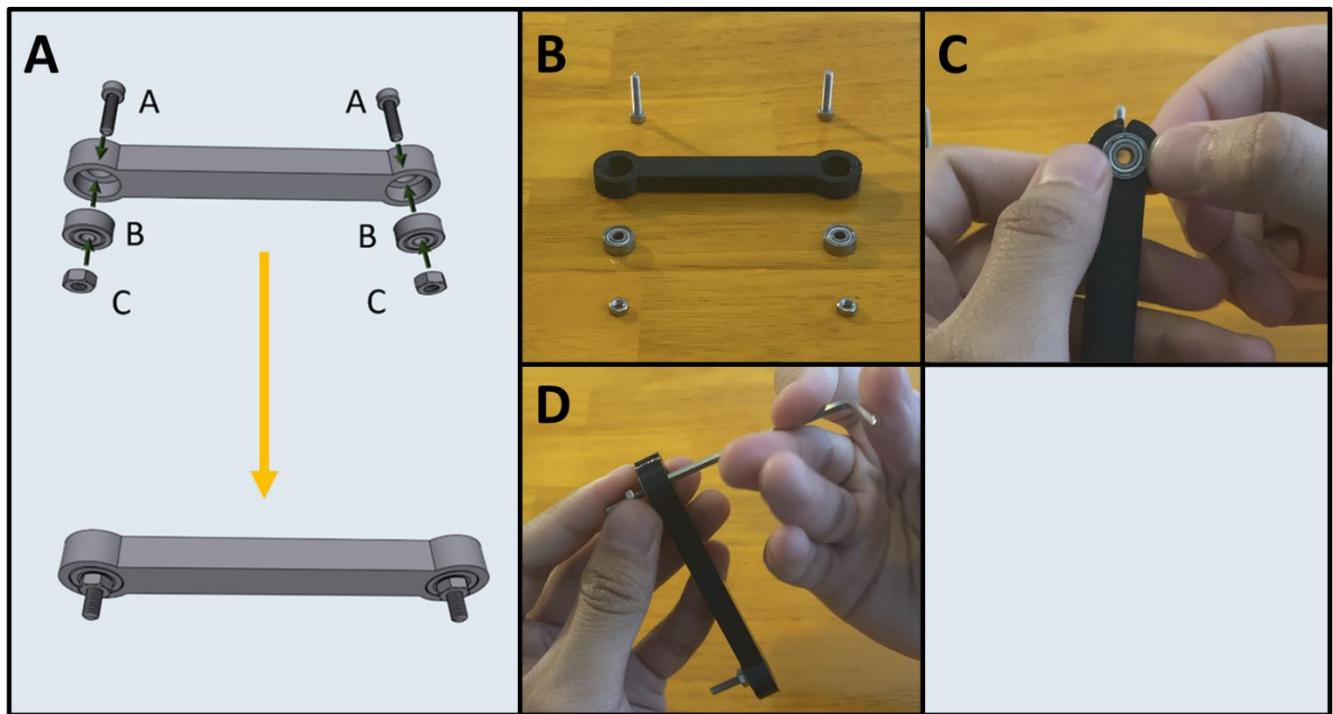

Figure 22a-d: The procedure for assembling Arm Three.
Figure 22a gives an overview for assembling Arm Three. This step requires (A) two M3x12 screws, (B) two 623-2Z ball bearings and (D) two M3 hex nuts. After gathering the required hardware and the 3D-printed Arm Three (Fig 22b), press fit the ball bearing into Arm Three (Fig. 22c), then pass an M3x12 screw through the bearing and thread a hex nut onto the screw (Fig. 22d). Repeat for the other end.